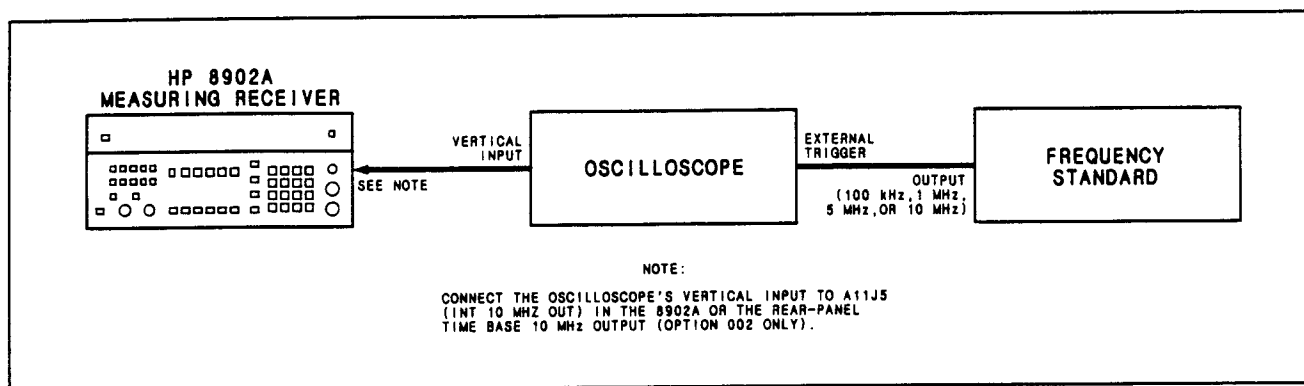

Figure 5-1. Internal Reference Frequency Adjustment Test Setup
1. Connect the equipment as shown in Figure 5-1. Allow the equipment to warm up for 15 minutes. For Option 002, a warm-up of the Measuring Receiver of several days with covers on is recommended.